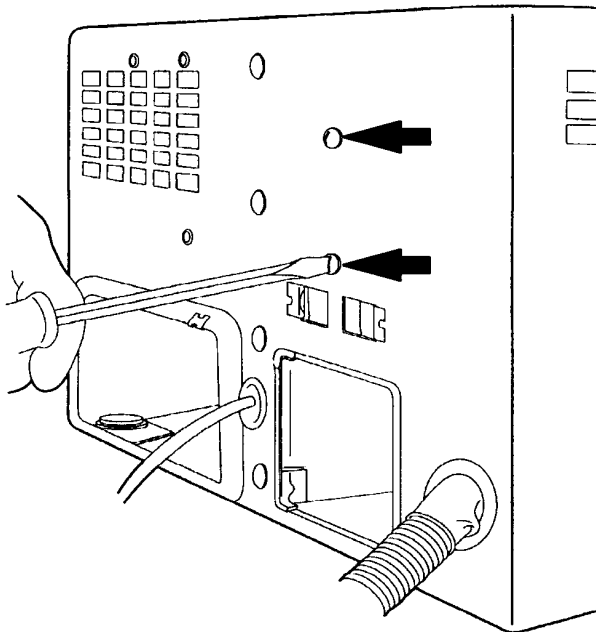

Figure 37 Cab Blower Mounting Screws
3. Remove two screws from the front side of the Blend-Air unit (Figure 37).
4. While holding the blower motor housing in place, install and tighten two screws through the front side of the Blend-Air unit into the blower motor housing (Figure 37).